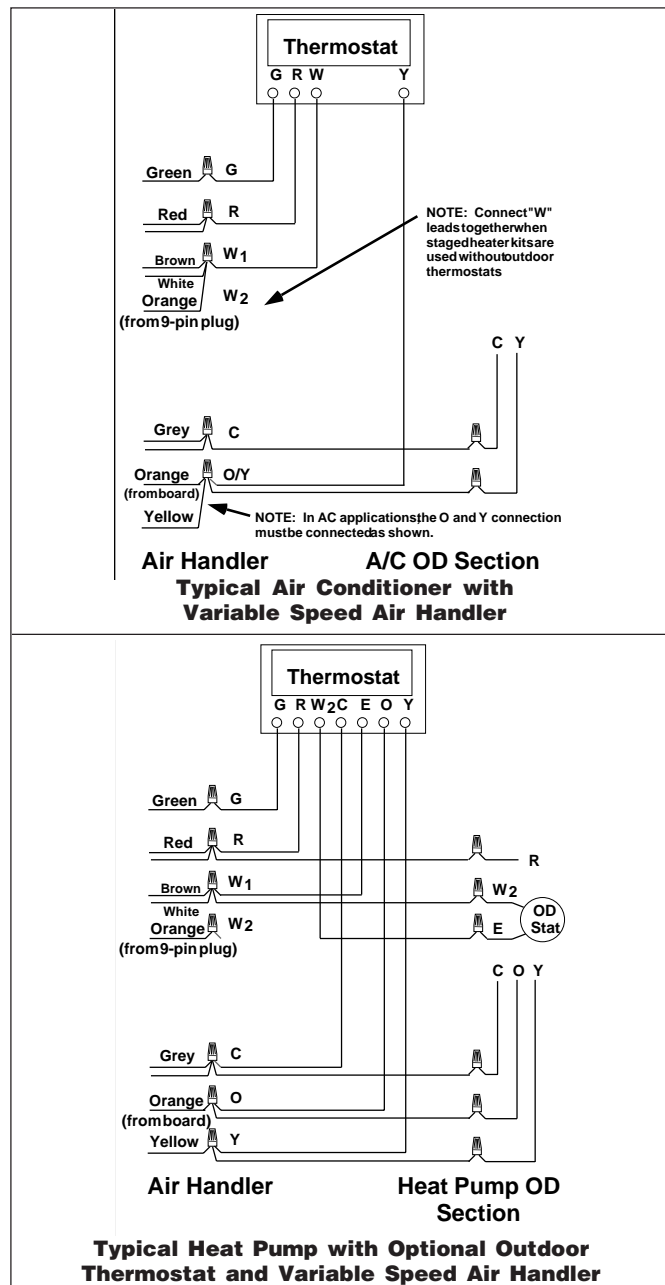

Figure 1. Typical Air Conditioning and Heat Pump System Connections
15. Connect the thermostat wiring as shown in **Figure 1**.